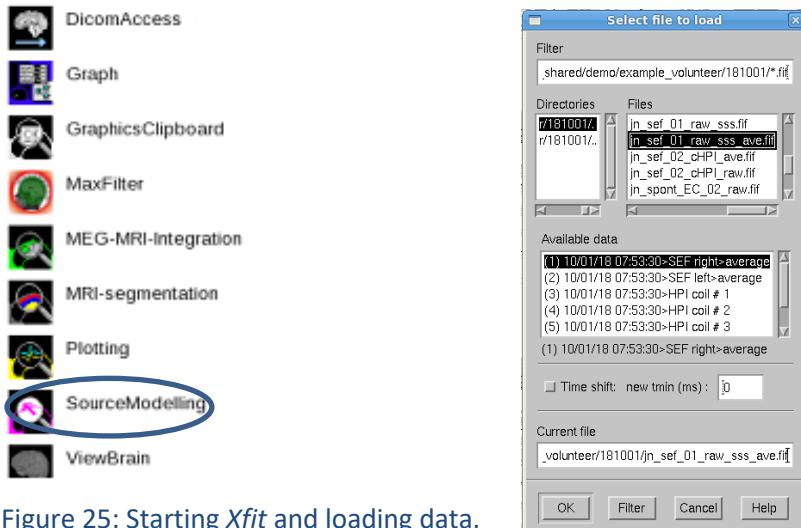

Figure 25: Starting *Xfit* and loading data.
- Select Applications -> Neuromag toolbox -> SourceModelling (Figure 25).